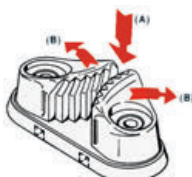

FIGURE 3
FIGURE 3 - Introduce the sheet in a vertical position, the jaws snap shut automatically. Unlike others that need to be opened. The teeth of the jaws, tilted forward on the upper part, transform the vertical pressure of the sheet (A) in a rotating movement of the jaws (B) (patented). This ensures maximum functionality. No other clamcleat has this feature.